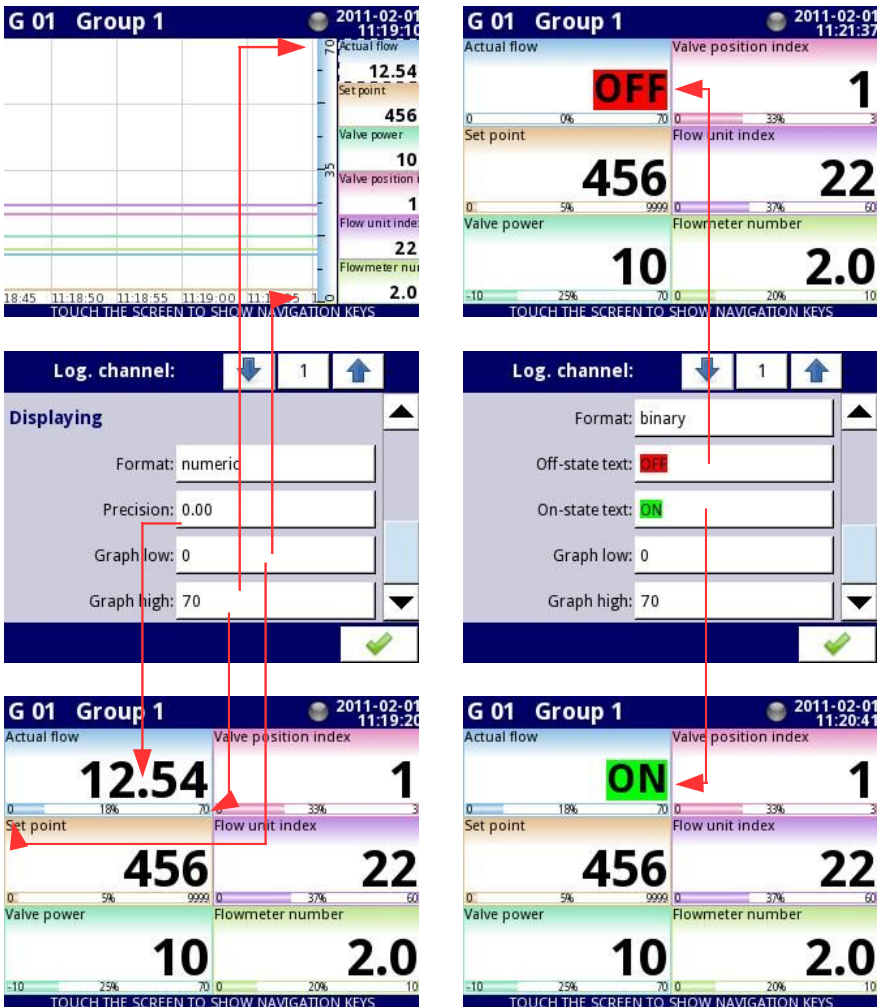

Fig. 7.39. Input channels menu – 2 different kinds of Displaying parameters
- **Precision** – this parameter occurs when **Format** parameter is set as **numeric** or **time**, which specifies the precision to be displayed on the output value (see Fig. 7.39),
- **Graph low** - minimum range value for graphs, bars, needle dials and percentage bars (see **Fig. 7.39**),
- **Graph high** - maximum range value for graphs, bars, needle dials and percentage bars (see **Fig. 7.39**),